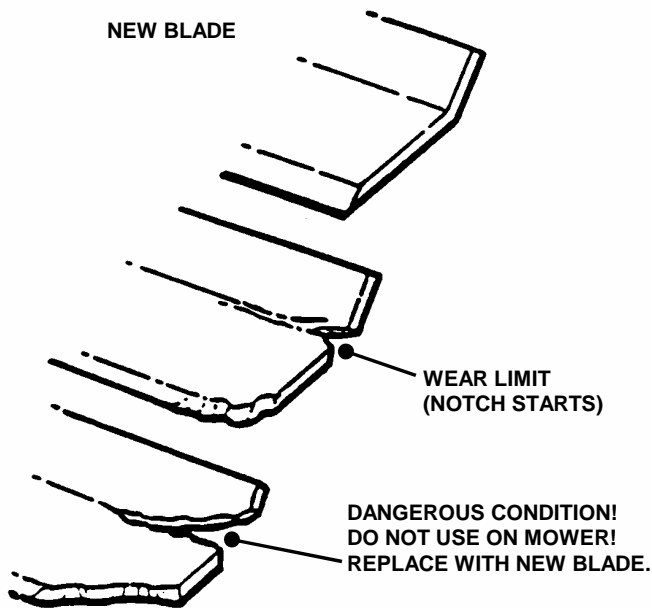

FIGURE 5.14
1. Inspect blade frequently for signs of excessive wear or damage. Replace blade when it reaches the wear limit. See Figure 5.14.
2. Inspect condition of blade. See Figure 5.14.